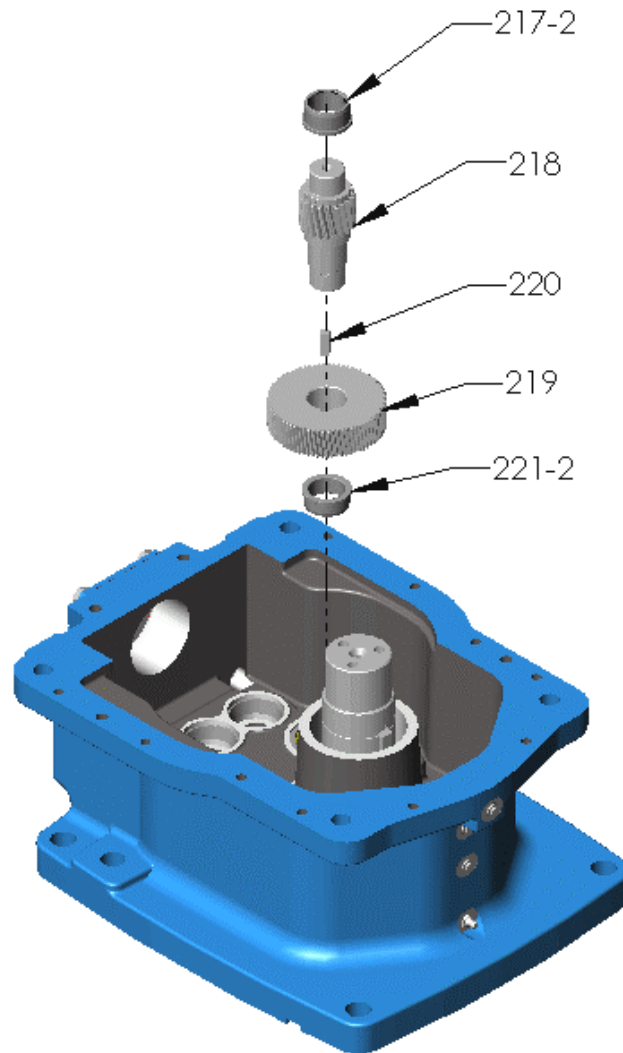

Figure 17 – 2nd Intermediate shaft
- F. 2nd intermediate shaft assembly (refer Figure 17).
- G. Install 2nd intermediate shaft [218] assembly in the bearing outer race [221-1] in the case bottom (refer Figure 17).